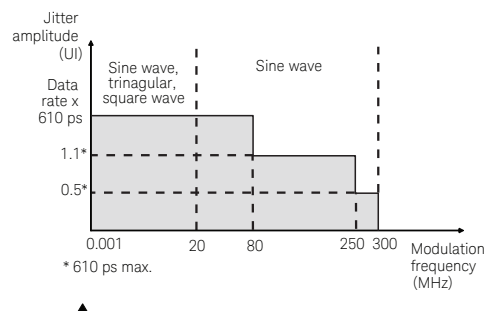

Figure 18. Periodic jitter maximum for data rates ≤ 3.375 Gb/s using the 610 ps delay line
1. Available range depends on modulation frequency and data rate (see Figures 18 and 19).